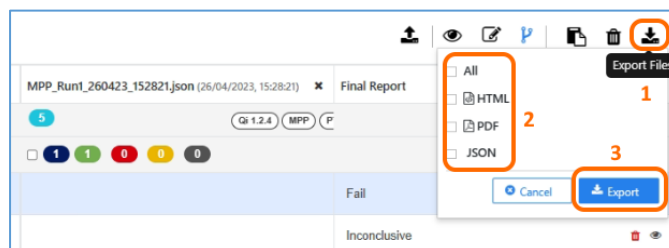

FIGURE 8.119: DOWNLOAD/EXPORT JSON REPORT FILES
1. Click on the Download icon  at the top right of the JSON Report Analyzer screen as shown in Figure 8.119 below.